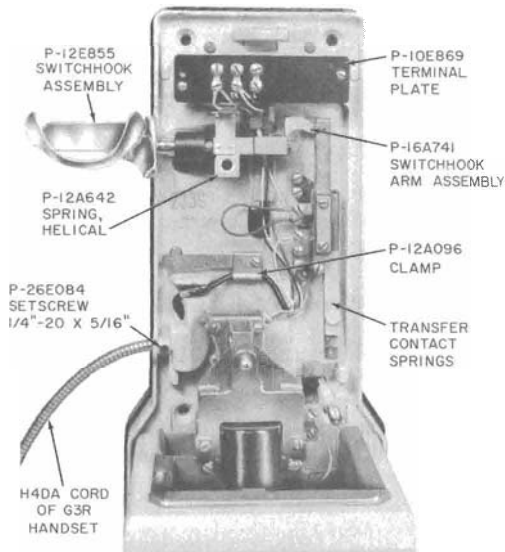
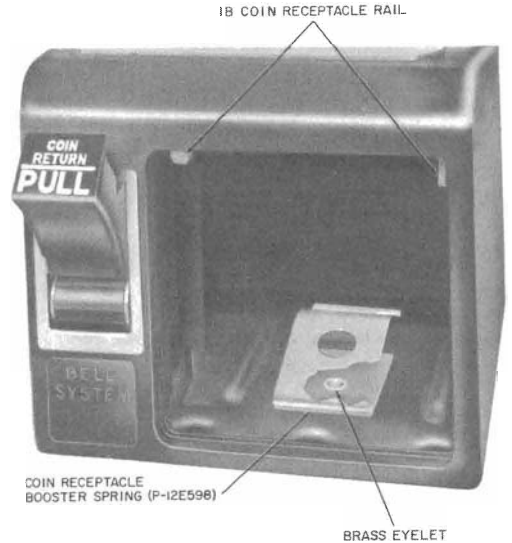
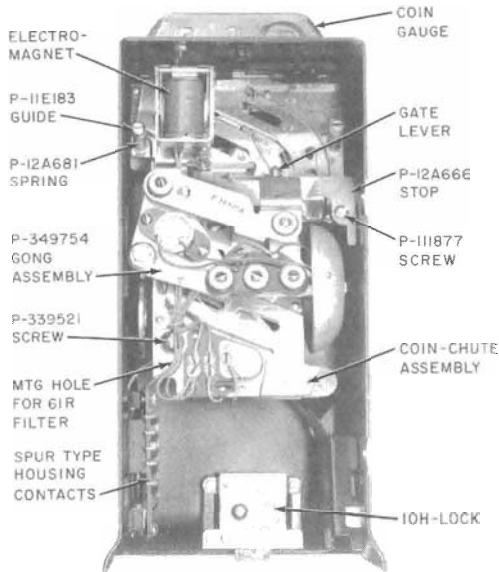

Fig. 4—Typical Backplate Assembly
Fig. 6—Typical Lower Housing, Less Coin Receptacle Door
Fig. 5—Typical Upper Housing, Rear View
**1.03** The coin collector consists of a cast iron or aluminum backplate assembly (Fig. 4), a steel upper housing Fig. 5, and a steel lower housing (Fig. 6).
and one P-339521 screw (Fig. 5). Older coin collectors use two P-12A680 screws instead of guides. Coin chutes not associated with washer reject mechanisms are mounted with three P-339521 screws.
**2.19** A 61R radio-frequency suppression filter is not considered a part of the chute assembly. The filter, when used, mounts on the rear of the coin chute at the lower left corner. A mounting hole (Fig. 5) is provided. Dial postpay coin collectors are normally equipped with 61R filters and are identified by a red dot located on the back of the coin gauge.
**2.21** The self-locking receptacle consists of a 1B coin receptacle equipped with a 1C, 1D, or 1E coin receptacle cover. Use of the coin receptacle requires a 1A or 1B coin receptacle rail on the mechanism base in the cash compartment (Fig. 6).
**2.22** The P-12E598 coin receptacle booster spring (Fig. 6) reduces the clearance between the coin receptacle cover and the rail. This prevents collected coins from falling out of their normal path on to the coin receptacle cover.
- 2.23 The lower part of the coin return chute is located in the lower housing to the left of the cash compartment (Fig. 6).
- 2.28 Parts mounted on the backplate are illustrated in Fig. 4.